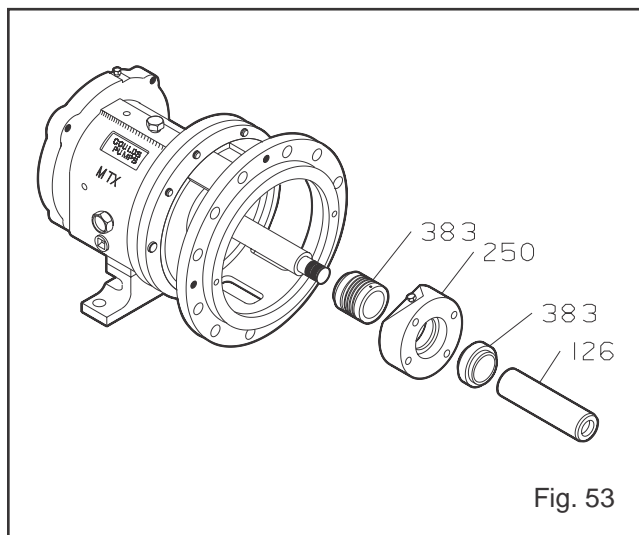

Fig. 53
4. Remove the shaft sleeve (126).
**NOTE:** The mechanical seal is attached to the sleeve (126). The rotary portion of the seal needs to be removed from the sleeve by loosening the set screws and sliding off the sleeve. Refer to the mechanical seal instructions.
5. Remove the stationary seat and the gland or seal chamber with the gland gaskets (Figs. 53 & 54).